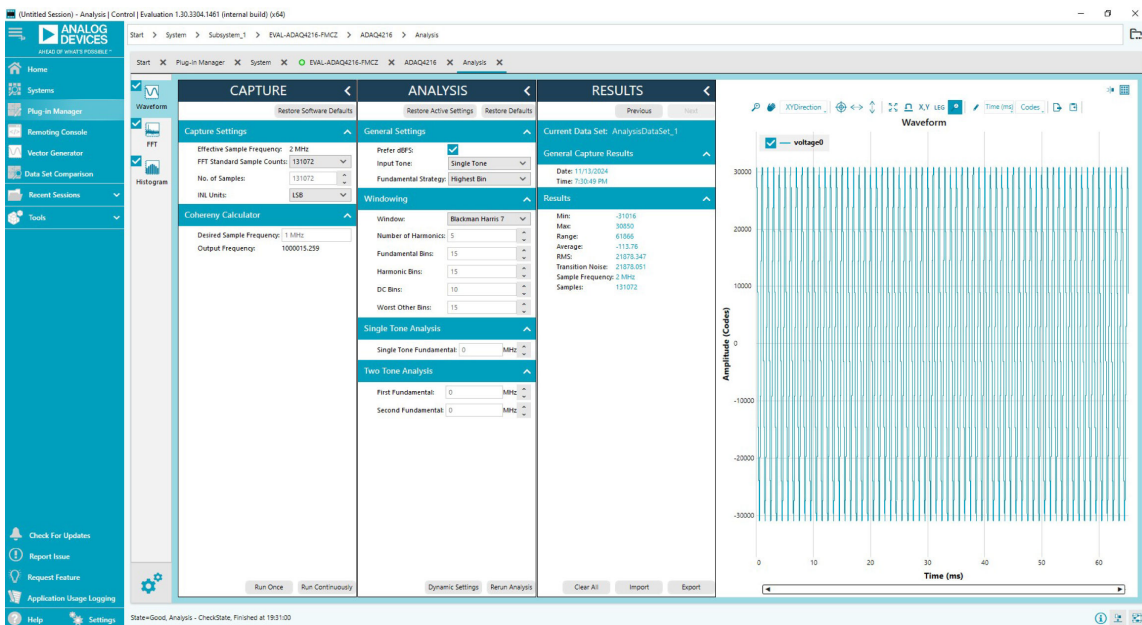
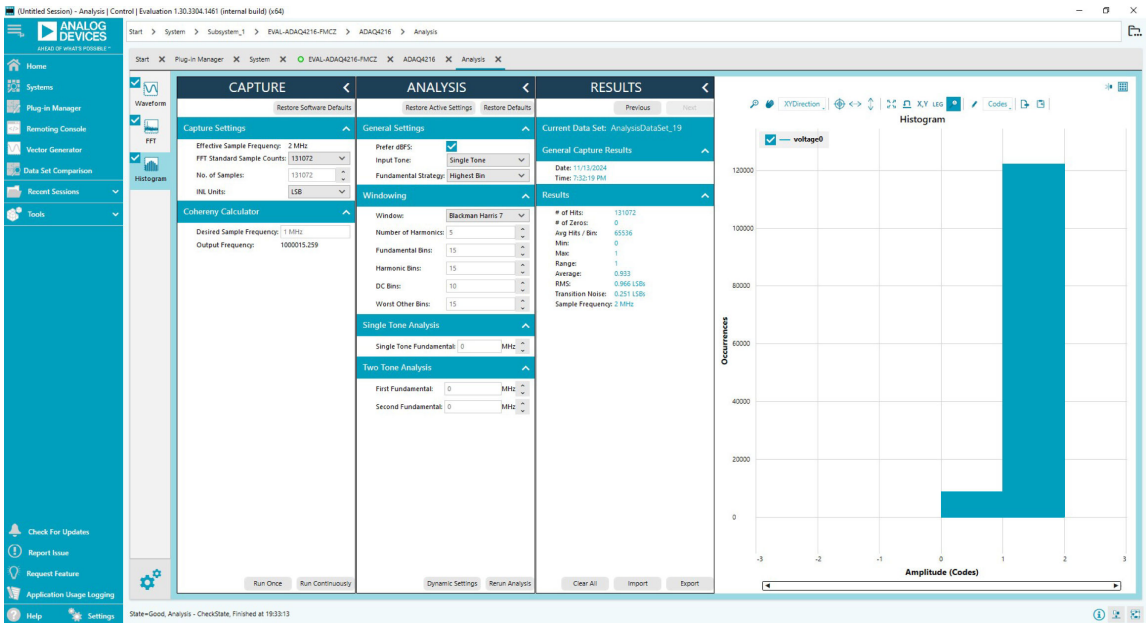

Figure 12. Analysis Tab, Waveform Display (1kHz, -0.5dBFS Input Signal)
Figure 14. Analysis Tab, Histogram Display (Grounded Inputs)
6. Click **Proceed to Analysis** button to open Analysis tab. In the Analysis tab, the data capture displays as a waveform, an FFT, and in a histogram, as shown from Figure 12 to Figure 14.
The **RESULTS** pane shows the relevant performance calculations specific to the selected capture tab whether it is in waveform, FFT, or in histogram. For more details, see the **RESULTS** pane from Figure 12 to Figure 14.
The Waveform tab displays the discrete data vs. time with the results, as shown in Figure 12.
The Histogram tab contains the Histogram graph and the **RESULTS** pane, as shown in Figure 14. The **RESULTS** pane displays the information related to the DC performance. The Histogram graph displays the number of hits per code within the sampled data. This graph is useful for DC analysis and indicates the noise performance of the device.